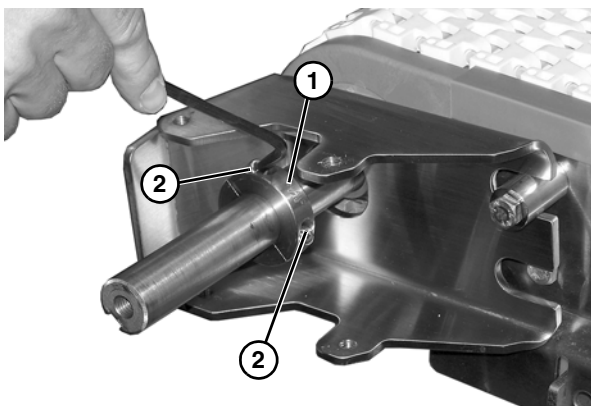

Figure 15
5. Install second half of collar clamp (**Figure 15, item 1**) and secure with two hex socket head screws (**Figure 15, item 2**).